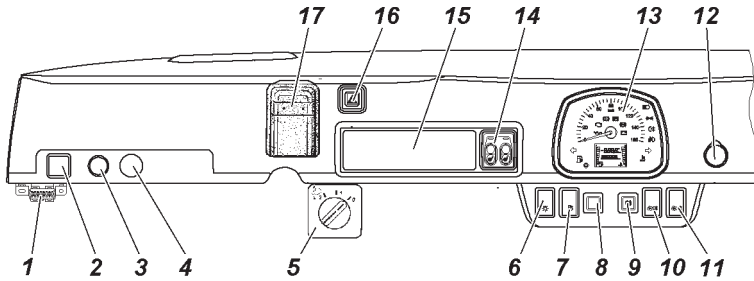

Fig. 3.3. Instrument panel (see item description in the text):
- 1 — instrument panel (Fig. 3.3);
- The following is installed on the instrument panel (Fig. 3.3):